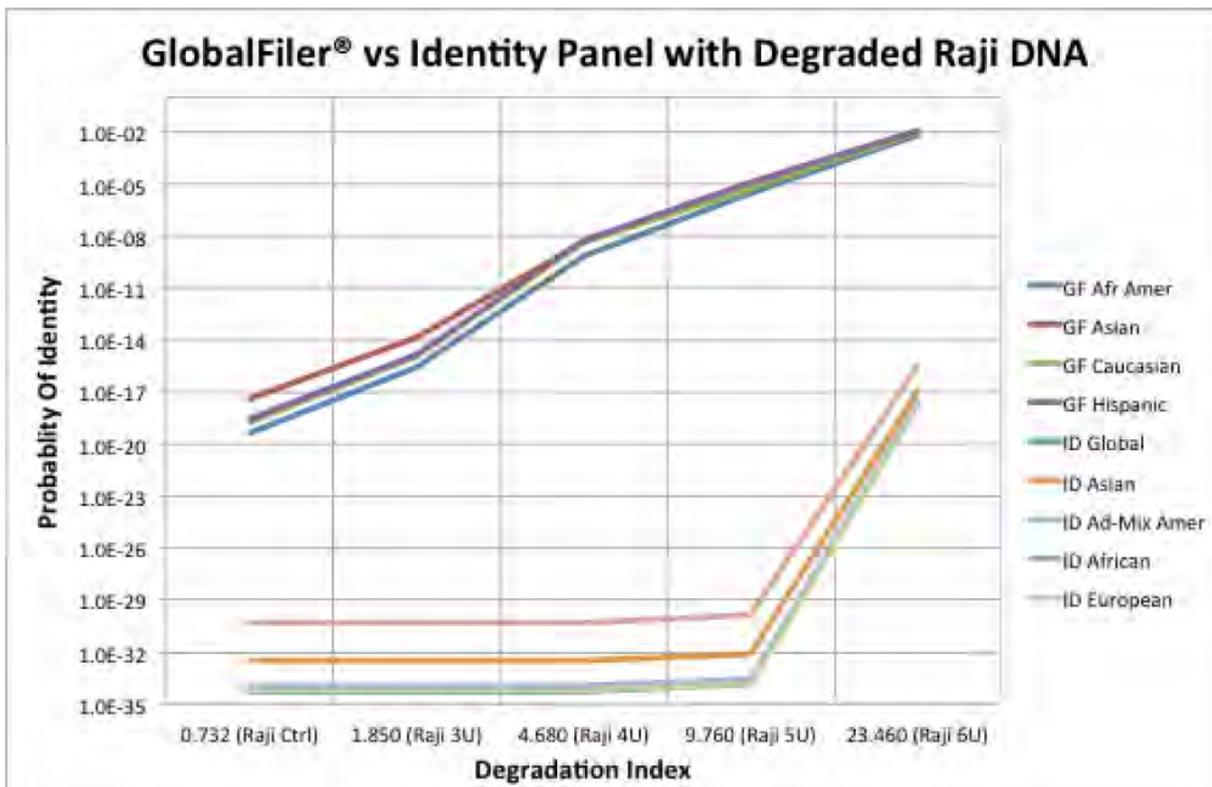

Figure 38 Probability of identity vs degradation index in HID-Ion AmpliSeq™ Identity Panel; results may differ depending on sample type and integrity
Figure 38 shows the correlation of the Probability of Identity (PI) obtained with STR analysis and the PI of the same artificially degraded Raji DNA sample (quantified with the Quantifiler™ Trio DNA Quantification Kit and analyzed with the HID-Ion AmpliSeq™ Identity Panel; PI values obtained from 1000 Genomes <http://www.1000genomes.org/>) obtained with HID-Ion AmpliSeq™ Identity Panel analysis.